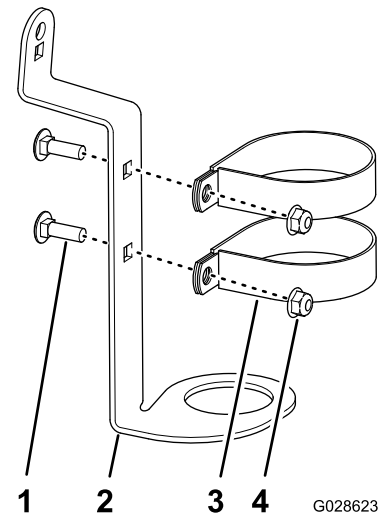

Figure 4
1. Assemble the 2 clamps to the spray-gun bracket (Figure 4) with 2 carriage bolt (5/16 x 1 inch) and 2 flanged locknuts (5/16 inch).